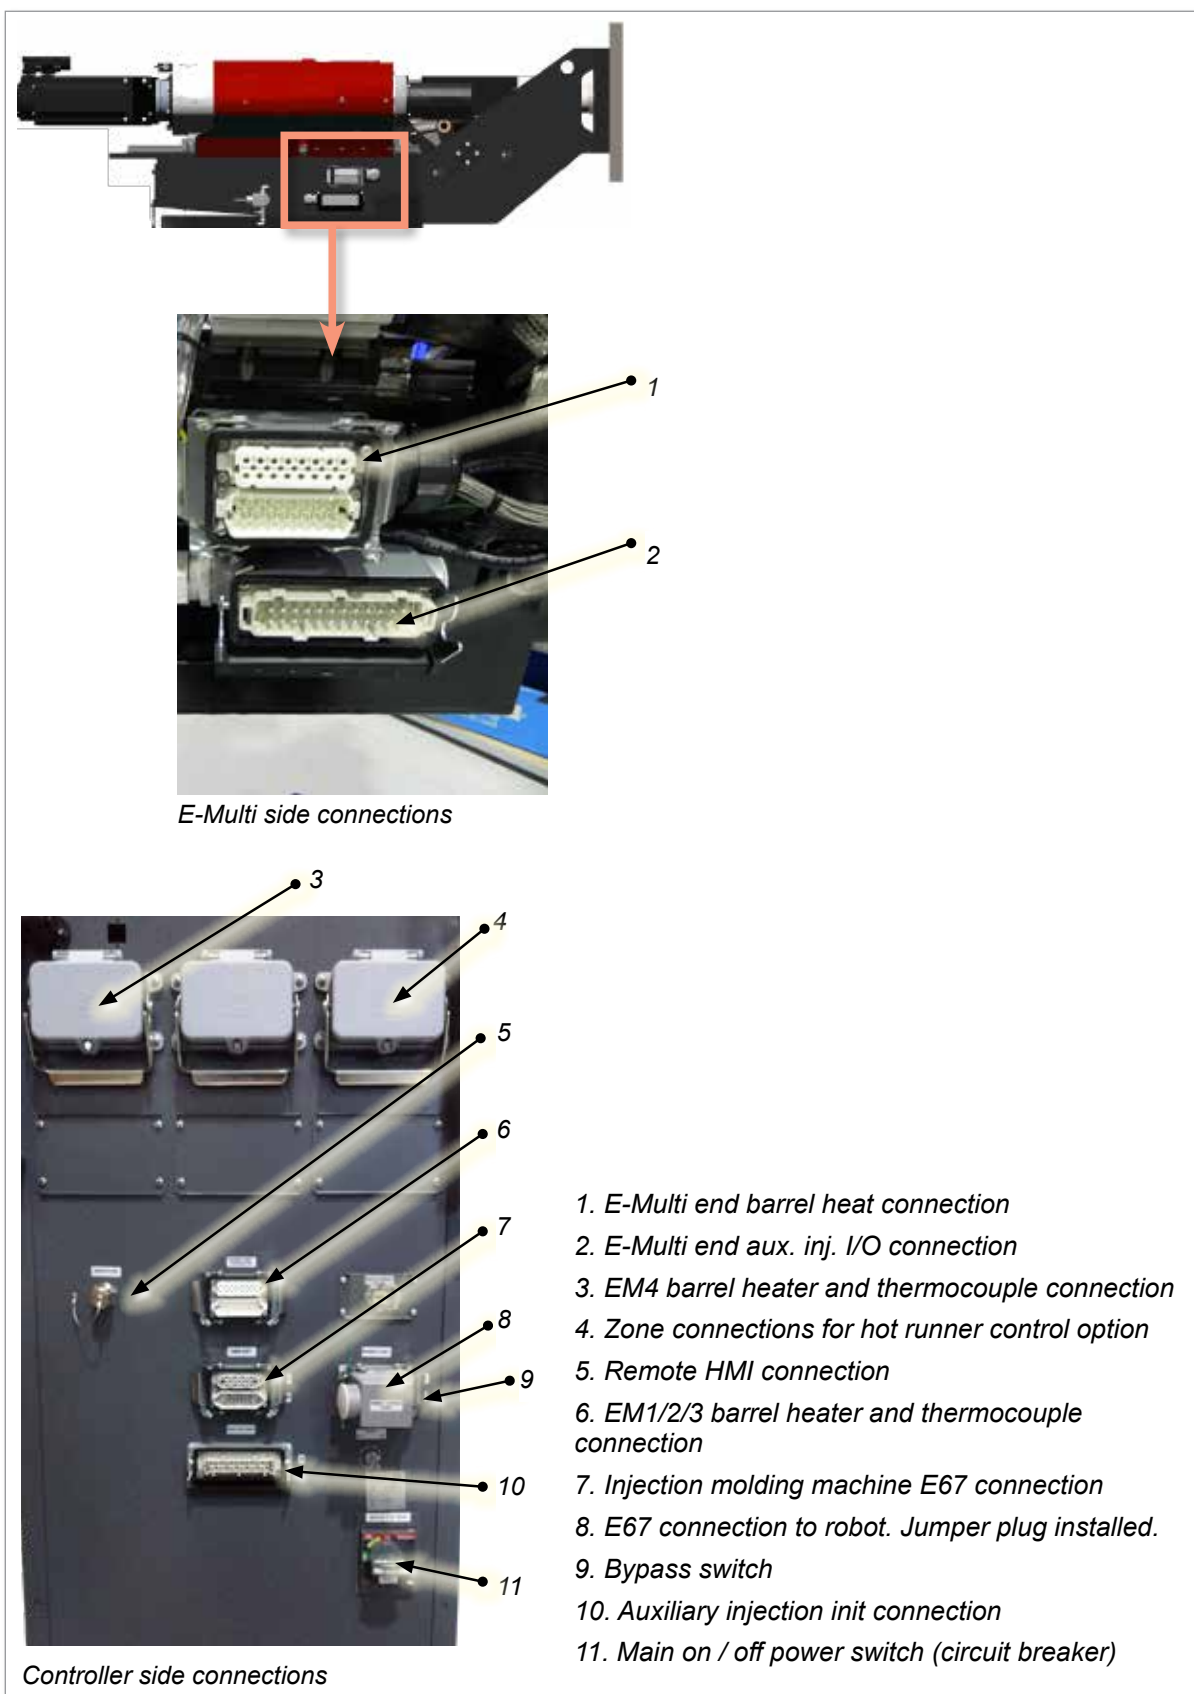

Figure 7-4 E-Multi connection locations
5. Connect the "CONTROLLER END" of the cables to the "BARREL HEAT CONNECTOR" and "AUX INJ. UNIT" connectors on the controller. See Figure 7-4 on page 7-3.
If no robot is used, connect the robot jumper plug to the “ROBOT E67” connector on the controller (see Figure 7-4 on page 7-3).
E-Multi units are available with optional handheld Human Machine Interface (HMI) units to allow control of the E-Multi injection unit when access to the controller is inconvenient. The handheld HMI connects to the “HANDHELD HMI” connector on the controller (see Figure 7-4 on page 7-3).